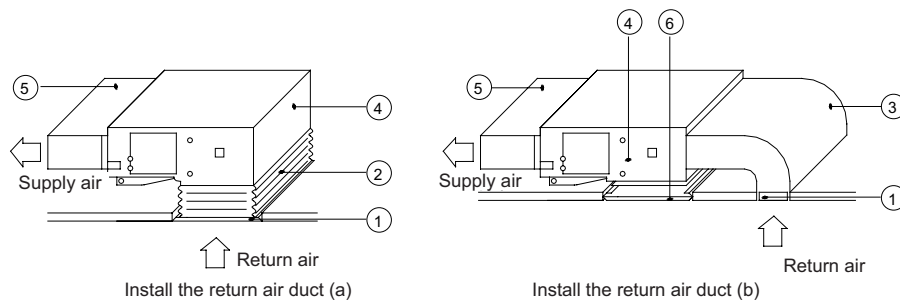

Figure 3-1-22
(6). The installation method can be chosen with considering the conditions of the building and maintenance etc., as shown in Figure 3-1-22.